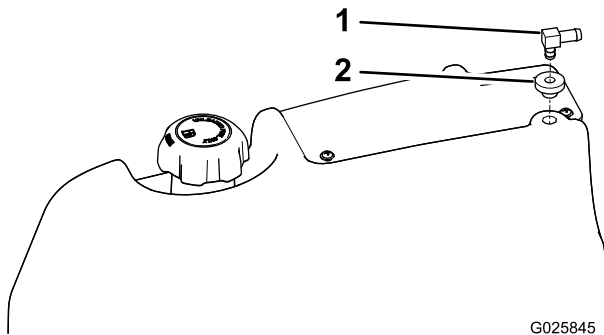

Figure 2
2. Insert the bushing into the hole in the vent boss (Figure 2).
3. Press the 90 degree fitting into the bushing, and position it as shown in Figure 2.